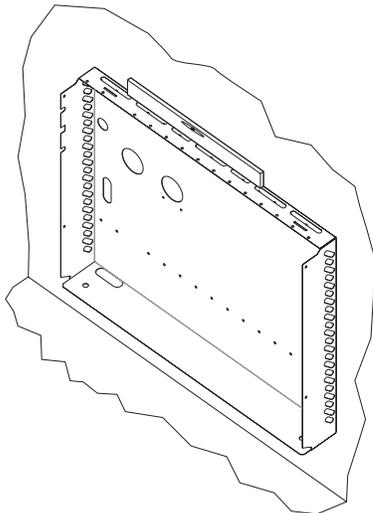

Figure 1
2. Locate the wall studs and move the wall mount shroud into position. Make sure that the flue and inlet pipe openings are not aligned with a wall stud. Make sure shroud is level. **See Figure 1.**